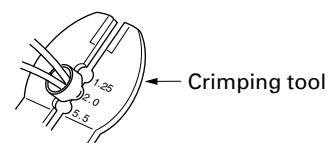

Fig.6
- As shown in Fig.6, use the crimping tool to crimp the metal sleeve at the center position. Be sure to crimp fully to the complete closure of the tool.